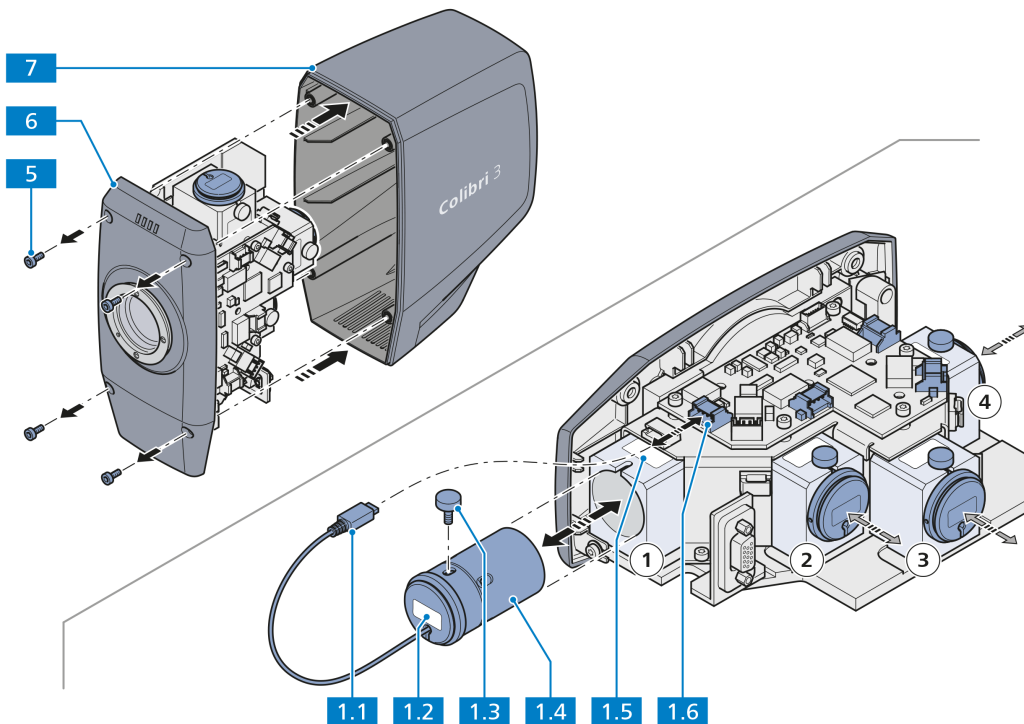

Fig. 3-38 Changing the LED modules in the Colibri 3 illumination system
How to change an LED module, i.e. the LED module for LED slot 1 (Fig. 3-38/①):
- Loosen the four captive clamping screws (Fig. 3-38/5) on the front side with an Allen wrench (AF3).
- Remove the back cover (Fig. 3-38/7).
- Disconnect the LED module power cable connector (Fig. 3-38/1.1) from the PCBA (Fig. 3-38/1.6).
- Loosen the knurled knob (Fig. 3-38/1.3) by hand and remove the old LED module (Fig. 3-38/1.4).
- Select the right LED module with matched LED-specific labels (Fig. 3-38/1.2 and 1.5) and insert it in the correct slot (Fig. 3-38/①).
One label on the LED slot (Fig. 3-38/1.5) indicates the wavelength range for this position; the other label on the LED module housing (Fig. 3-38/1.2) indicates the wavelength of the LED module. See the table below as well.
- Tighten the knurled knob (Fig. 3-38/1.3) again.
- Push the LED module power cable connector (Fig. 3-38/1.1) back to the PCBA (Fig. 3-38/1.6).
- If required, replace the LED modules of LED slots 2, 3 and 4 (Fig. 3-38/②, ③ and ④) in the same way.
- Mount the back cover (Fig. 3-38/7) and fasten the four anti-loss clamping screws (Fig. 3-38/5) with an Allen wrench (AF3).